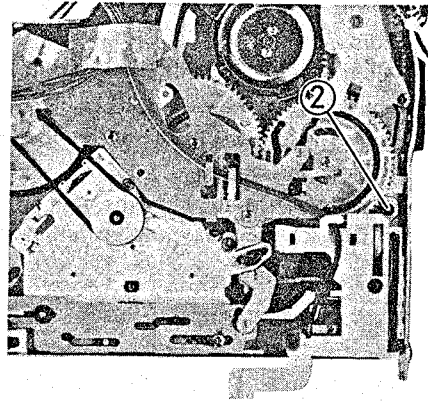

Fig. 2-95 Tension Arm and Tension Band Removal
Tension Arm and Tension Band Removal (Figs. 2-95, 2-96)
2. Remove one (1) washer. (See Fig. 2-95)
2. Remove the tension arm and tension band (See Figs. 2-95, 2-96)